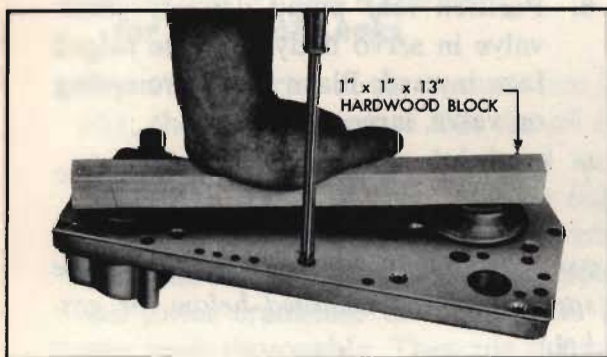

Fig. 49. Removing servo body spacer plate
- Remove the servo body spacer plate attaching screw from servo body at reverse servo. This screw is directly in line with the low servo. Place a 1" x 1" x 13" wooden block across the reverse and low servo spring seats (Fig. 49).
5. Install a new spacer plate gasket. Position spacer plate over spring seats. Using 1" x 1" x 13" wooden block, compress servo springs and install the spacer plate screws (Fig. 49).